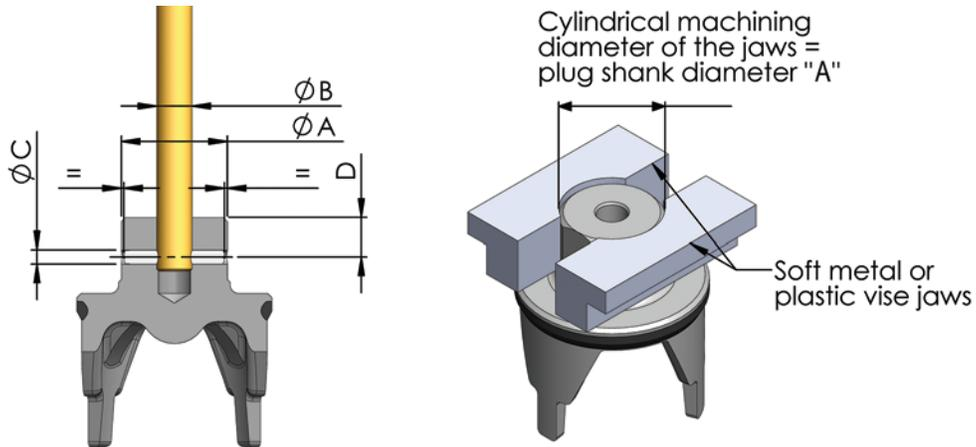

Figure 4 - Plug Stem Pinning
- Match Diameter C - see Figure 4 on page 12.
- Measure dimension D based on the plug shank diameter and stem diameter - see Figure 4 on page 12.
1. Select the correct size pin based on the plug shank diameter and stem diameter - see Figure 4 on page 12. Apply a small amount of grease on the pin and hand assemble it into the hole in the plug.
2. Press fit the pin into the hole using a hammer. Complete the pinning operation by taking care to ensure that the pin is recessed by the same amount at both sides - see Figure 4 on page 12.